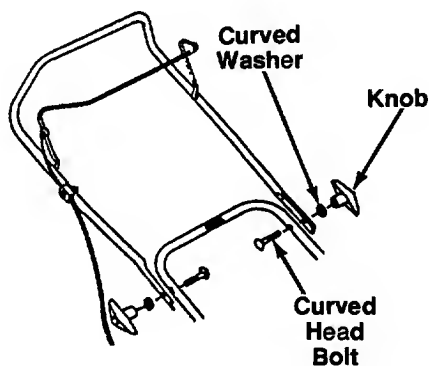

FIGURE 2.
2. Secure the upper handle to the lower handle using the curved head bolts, curved washers and hand knobs as shown in figure 2. Tighten knobs securely.